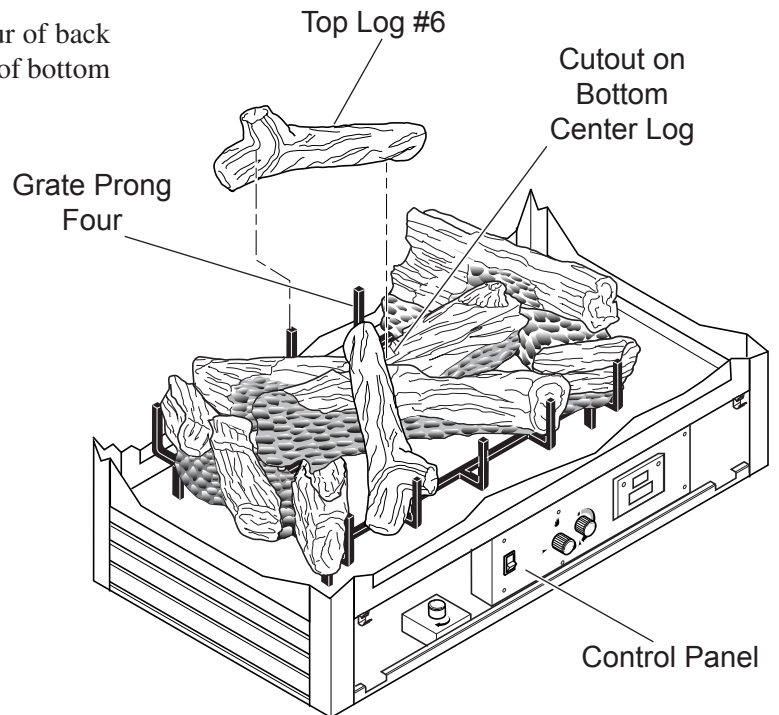

Figure 48 - Installing Top Log (#6)
- Place Y-Shaped end of top log (#6) on on prong four of back of grate. Position other end of top log (#6) in cutout of bottom center log (#3). See Figure 48.